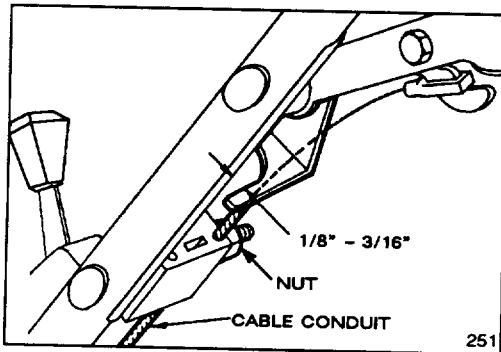

Figure 24
3. **ADJUST CABLE CONDUIT** (Fig. 24)—Loosen nut on cable bracket. Insert 1/8"-3/16" object between brake lever and handle. Pull down on cable conduit until all slack is removed from wire. Then tighten nut.